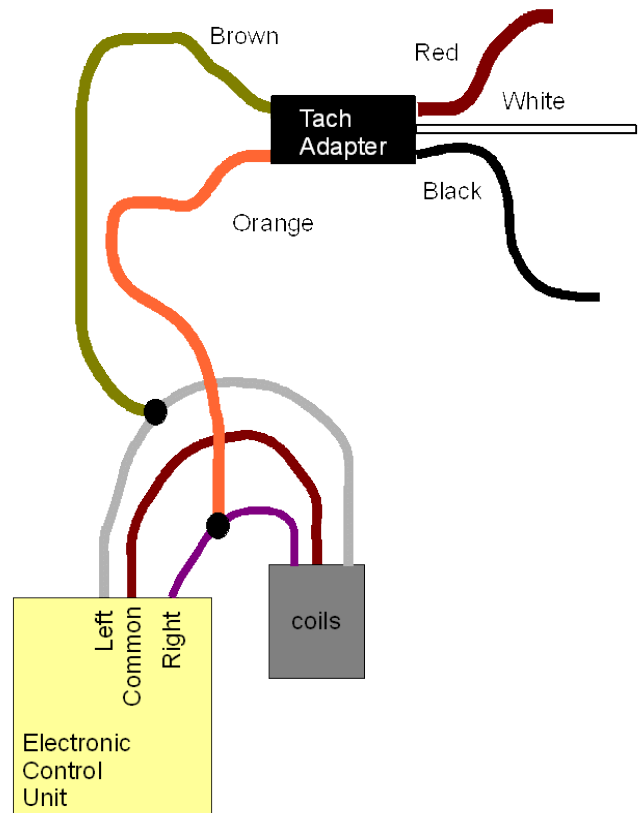

Figure 3: Tach adapter to Coil diagram
4. Splice into the Left and Right coil signals(-) and connect to the Brown and Orange wires from Speedway Instruments tach adapter. Do not splice into the common (+) signal. See Figure 3.